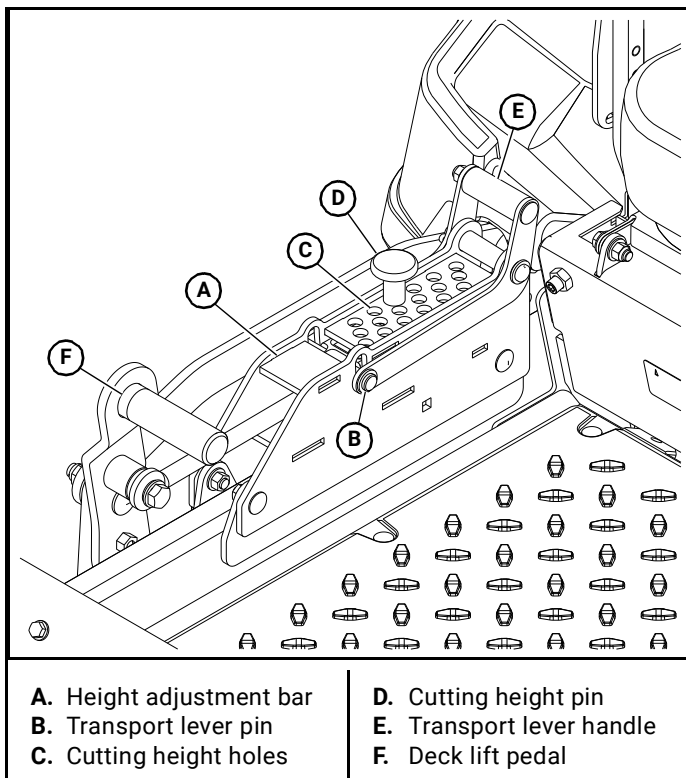

Figure 3-15
The deck cutting height is adjustable in 1/4" (6.3 mm) increments. The holes in the height adjusting bar are spaced at 1/4" (6.3 mm) intervals. Figure 3-15
1. Push on the deck lift pedal to release pressure from the cutting height pin. Figure 3-15
2. Place the pin in the desired cutting height hole. Figure 3-15
1. Push on the deck lift pedal until the transport lever pin slips into the slot in the top of the height adjusting bar. Figure 3-15
2. Pull on the transport lever handle until the transport lever pin lifts out of the slot. Figure 3-15